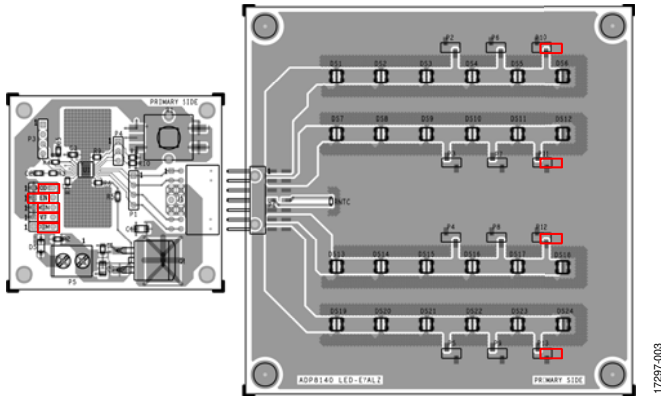

Figure 3. Default Jumper Connections
1. Connect the EN jumper to Pin 1, and connect the MODE jumper, MIN jumper, VT jumper, and DIM jumper to Pin 3. Leave the jumpers floating on the ADP8140 LED-EVALZ board (see Figure 3).